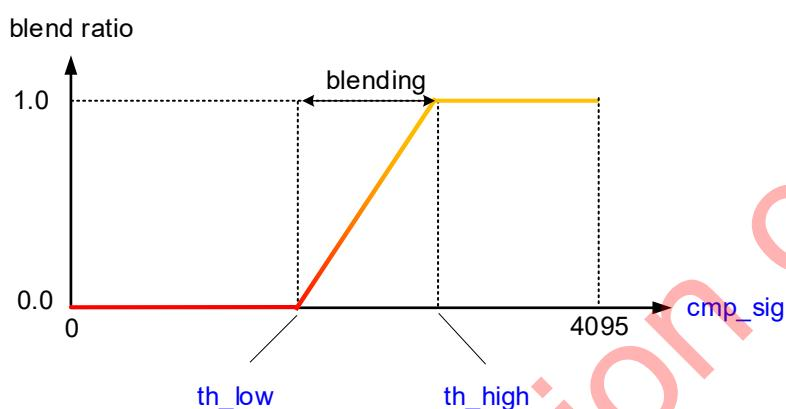
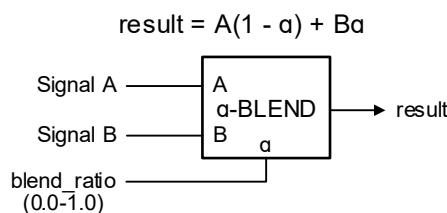

Figure 5-4 Blend Ratio Calculation
Figure 5-5 Alpha Blending
"Figure 5-4" illustrates how to calculate the blend ratio. The horizontal axis represents the reference signal (cmp_sig) and the vertical axis represents the blend ratio. The sensor calculates the blend ratio, ranging from 0.0 to 1.0, based on the relationship between the reference signal (cmp_sig), lower compositing threshold (th_low) and upper compositing threshold (th_high).
"Figure 5-5" is a signal processing diagram, in which the sensor alpha-blends two signals (Signals A and B) using the aforementioned blend ratio. The sensor transmits Signal A or Signal B when the blend ratio is 0.0 or 1.0, respectively. As the blend ratio gradually changes from 0.0 to 1.0, the output signal gradually changes from Signal A to Signal B.
- cmp_sig, th_low, th_high, Signal A and Signal B in "**Figure 5-4**" and "**Figure 5-5**"